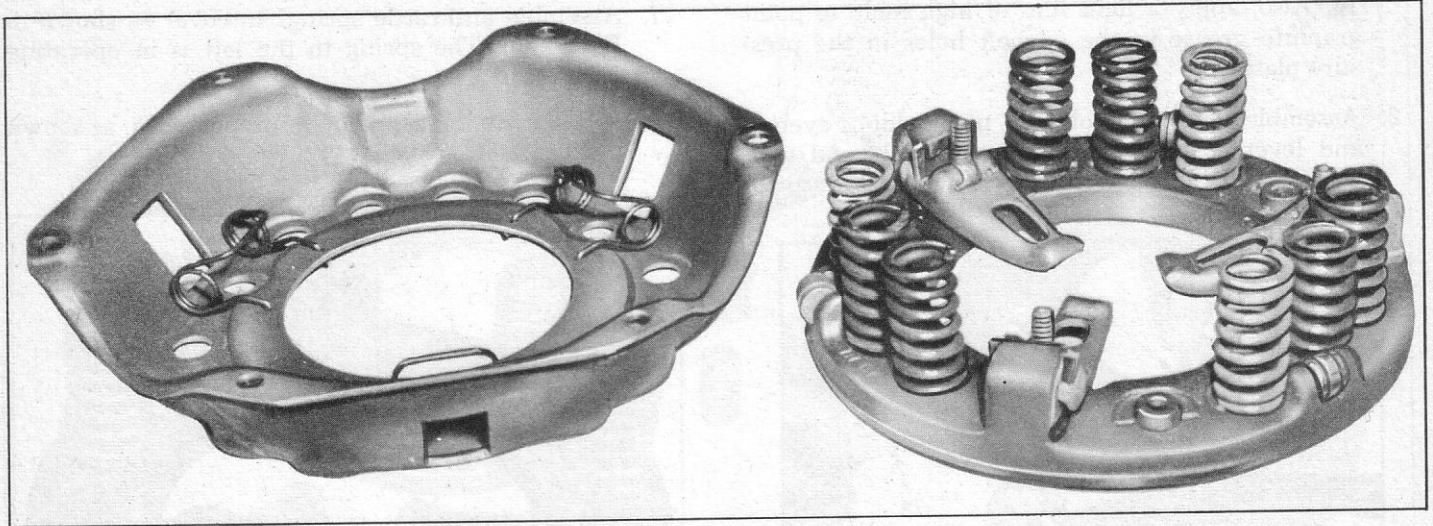

Fig. 18—Assembling Cover to Pressure Plate
9. Lower the cover on top of the assembled parts, (fig. 18) being sure that the anti-rattle springs are in correct position and also that the punch marks made before dismantling are matched to insure retaining the original balance.